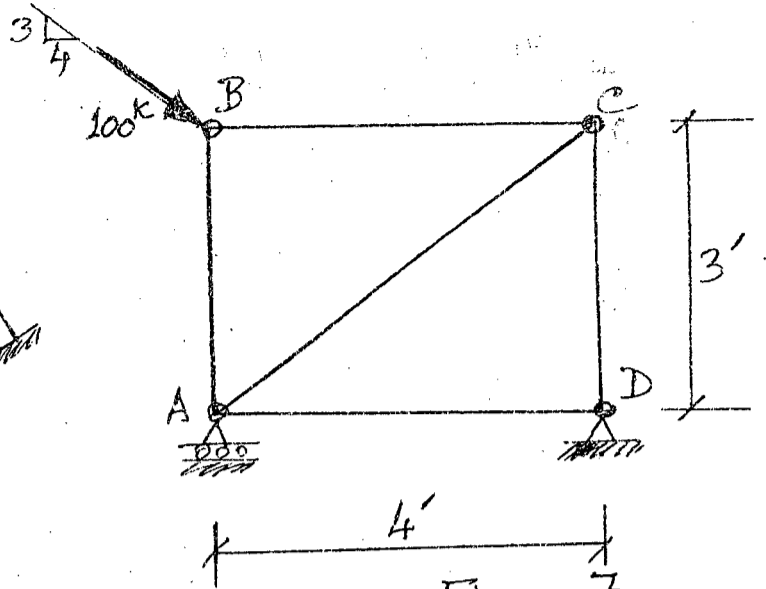

Fig. 7
10. Calculate how close B and D come along BD after application of 100k load at B of the truss shown in Fig. 7. Given: Cross sectional area of the diagonal AC = 0.5 in2 and that for all other members = 1 in2. E = 30000 ksi. (28)